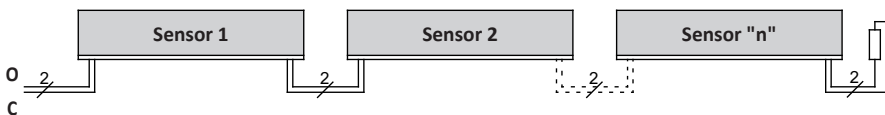

Figure 1: Wiring of multiple sensors; in this example: safety contact edge
8.4 Connecting multiple sensors per sensor circuit (figure 1)
One or more sensors can be connected to sensor input O or C. For this purpose, the individual sensors are connected in series according to figure 1.